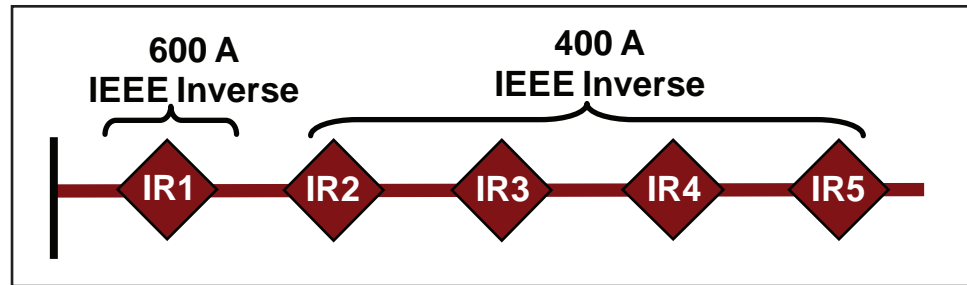

Figure 23. CEC permanent fault; all IntelliRupter fault interrupters are closed and coordinated.
- All IntelliRupter fault interrupters are closed and coordinated where possible. See Figure 23 on page 44.